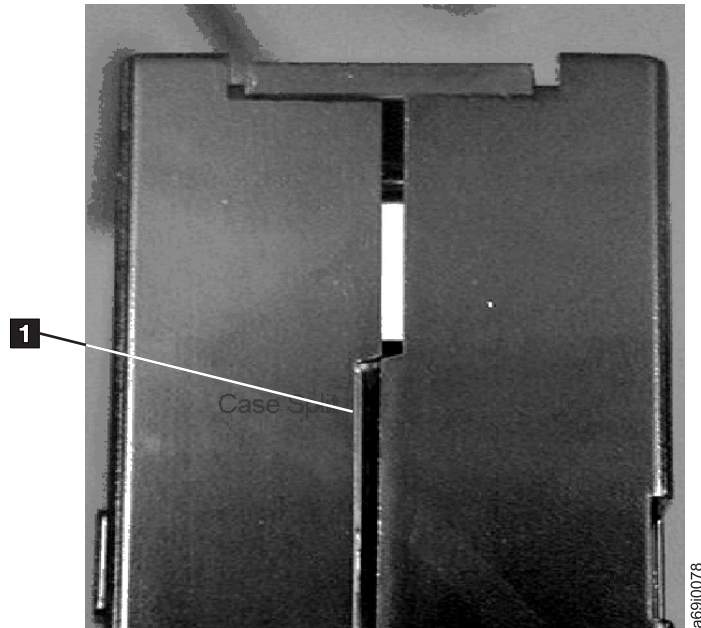

Figure 39. Checking for gaps in the seams of a cartridge
- Inspect the rear of the cartridge (the part that you load first into the tape load compartment) and ensure that there are no gaps in the seam of the cartridge case (see **1** in Figure 39 on page 239). If there are gaps in the seam, the leader pin may be dislodged and may need to be repositioned.